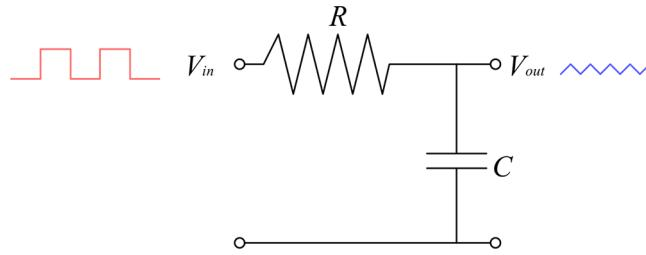

Figure 24: A typical low pass filter implemented with a resistor and a capacitor
An output square wave generated with the PWM technique can be filtered to generate a smoothed signal, that is an analog signal that has a reduced *peak-to-peak* voltage ( $V_{pp}$ ). A *Resistor-Capacitor* (RC) *low-pass* filter (see **Figure 24**) is able to cut-off all those AC signals having a frequency higher than a given threshold. The general rule of thumb of RC low-pass filters is that the lower is the cut-off frequency the lower is the  $V_{pp}^{34}$ . An RC low-pass filter uses an important characteristic of capacitors: the ability to block DC currents while allowing the passing of AC ones: given the R/C time constant formed by the resistor-capacitor network, the filter will short to ground those AC signal with a frequency higher than the RC constant, allowing to pass DC component of the signal and lower frequency AC voltages.